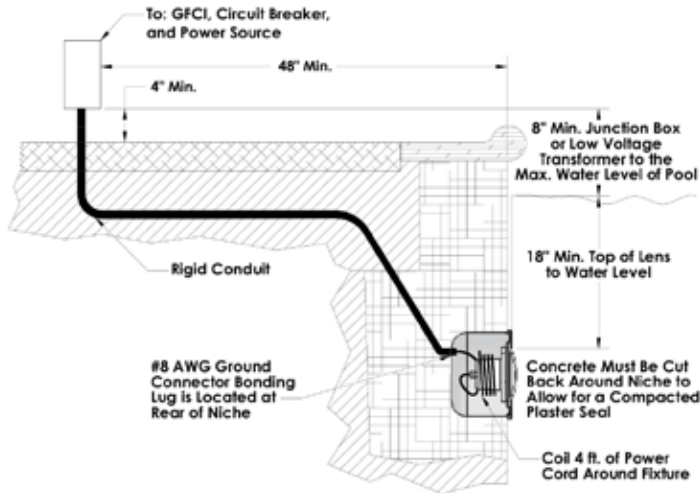

Figure 1
- Proper wet niche installation with the top edge of the underwater light's lens at least 18 inches below the surface of the water in the pool and not more than 20" in Canada; reference Figure 1.
- Proper electrical wet niche bonding and grounding using the #8 AWG ground connector at the rear of the niche; reference Figure 1.
- The wet niche is properly electrically bonded and grounded via the No. 8 AWG ground connector located at the rear of the niche; see Figure 1.